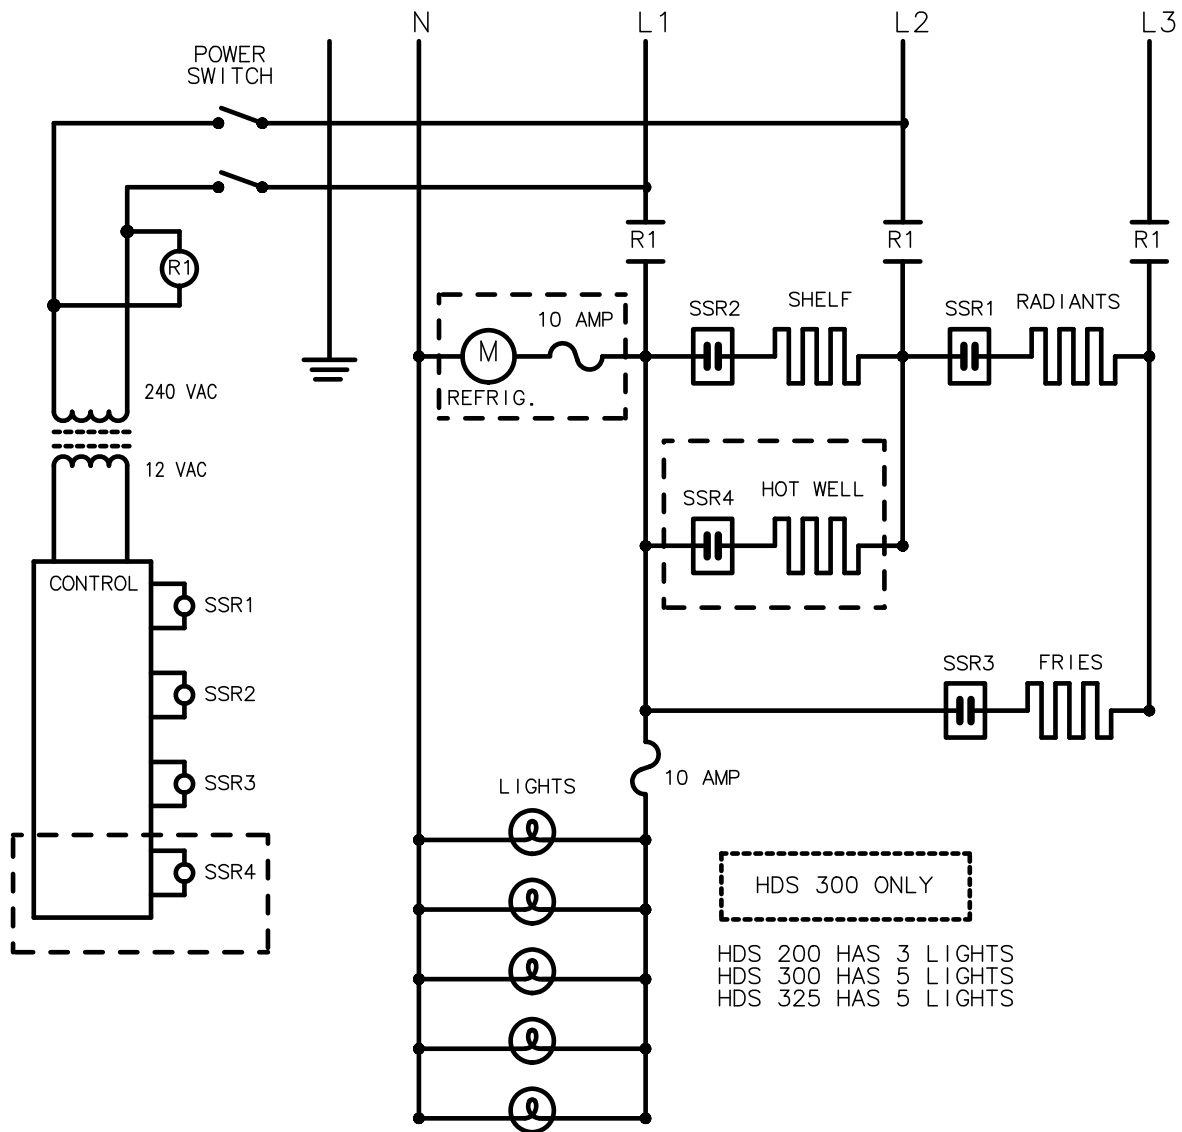

Figure 7
9. Press in on the brackets of the light socket and remove socket from the panel. Figure 7.